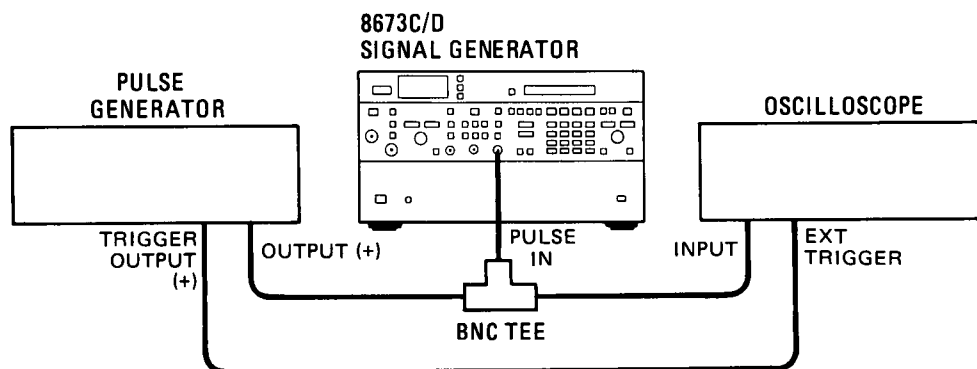

Figure 8-53. Pulse Modulation Check Setup
- 14. Connect test equipment as shown in Figure 8-53.